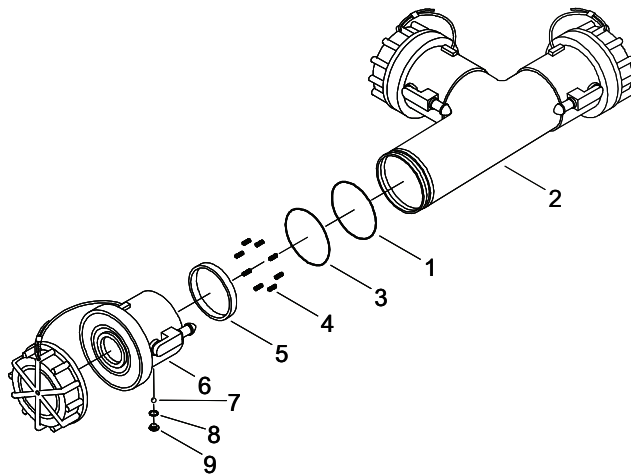

Figure 3. 2 In. Tee Assembly.
1. Lightly lubricate new o-ring (Figure 3, Item 1) with petrolatum and install new o-ring (Figure 3, Item 1) in second groove on outside of tee assembly (Figure 3, Item 2).
2. Lightly lubricate new o-ring (Figure 3, Item 3) with petrolatum and install new o-ring (Figure 3, Item 3) in inside groove of tee assembly (Figure 3, Item 2).
3. Position eight springs (Figure 3, Item 4) in the eight holes on the inside of the tee assembly (Figure 3, Item 2).
4. Install new seal (Figure 3, Item 5) in inside groove of tee assembly (Figure 3, Item 2).
5. Position coupling (Figure 3, Item 6) into tee assembly (Figure 3, Item 2) and press in to line up groove of tee assembly (Figure 3, Item 2) with groove of coupling (Figure 3, Item 6).
Ensure all 41 ball bearings (Figure 3, Item 7) are accounted for before assembly.
6. Hold coupling (Figure 3, Item 6) over cleaning cloth with screw hole up and insert ball bearings (Figure 3, Item 7) into hole.
7. Lightly lubricate new o-ring (Figure 3, Item 8) with petrolatum and install new o-ring (Figure 3, Item 8) on screw (Figure 3, Item 9).
8. Install screw (Figure 3, Item 9) into coupling (Figure 3, Item 6).
9. Using torque wrench and screwdriver bit, torque screw (Figure 3, Item 9) to 25 in. lb (2.8 N-m).